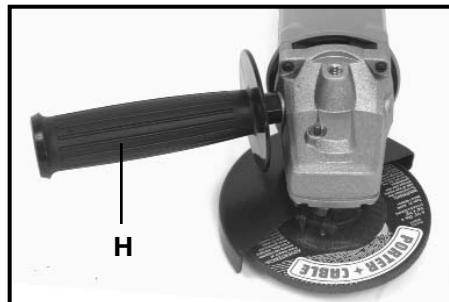

Fig. 2
An auxiliary handle (H), Fig. 2, is furnished with your machine and can be installed on either side or the top of the front housing. This handle **SHOULD BE USED AT ALL TIMES** to maintain complete control of the machine.